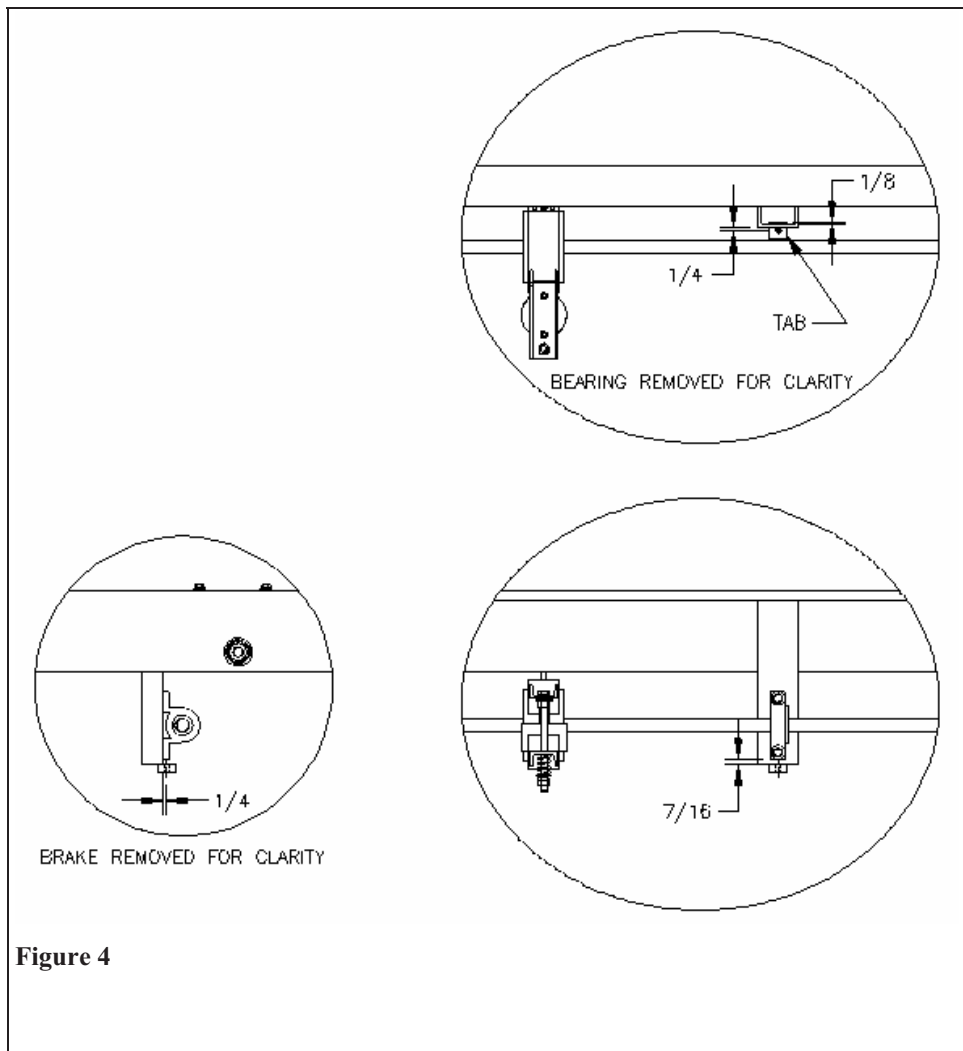

**Figure 3**
5. Please check brake on carriage. The brake should be air operated. See **Figure 3 & Figure 4**